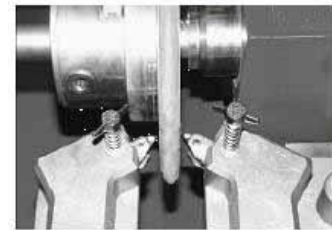

Fig.12
- b). Loosen the clamp handle and slide the disc truing attachment right or left so that the disc is centered between the tool bits. Tighten the clamp handle being sure the attachment is square to the tool bed. (Fig.12)